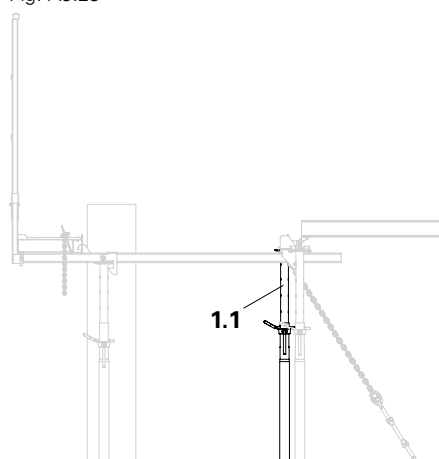

Fig. A9.25
5. Support the platform on the cross girder using the third prop without the prop head (1.1) (to accommodate the slab prop on the cross girder). (Fig. A9.25)